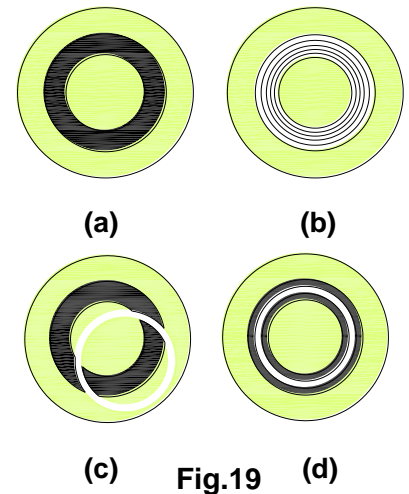

Fig.17
- 4) Turn the annular ring disk to put the corresponding ring into light path, i.e. if you are using the 20X phase contrast objective, you should turn the disk at 20 as shown in **Fig. 17**.